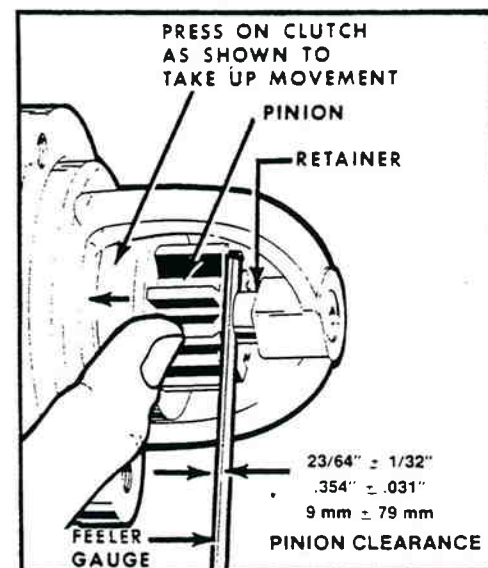

Figure 7-44. Checking Pinion Clearance (40MT & 50MT).
4. Measure the distance between drive and housing (figure 7-44).